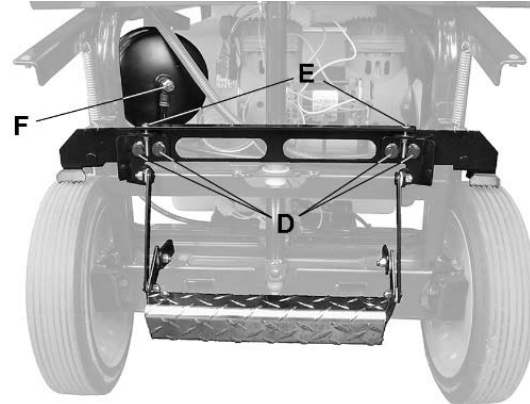

Figure 7-2
2. Loosen (do not remove) four hex cap screws (D, Figure 7-2).
3. Turn pan head screws (E) equally.
4. Retighten hex cap screws (D).
The pressure *output* valve at opposite end of air tank has been set by the manufacturer but can be adjusted by the user if needed. Loosen knurled nut and turn knob (F, Figure 7-2) to change setting. Tighten knurled nut to secure setting.